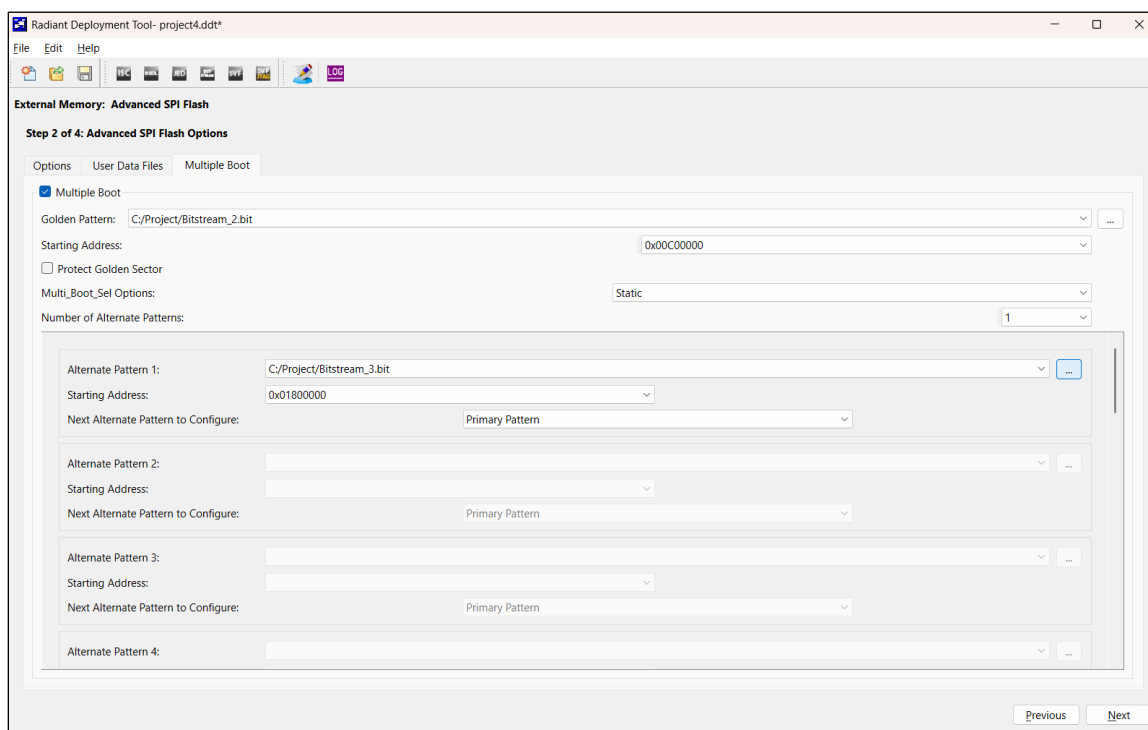

Figure 7.17. Advanced SPI Flash Options Window – Multiple Boot Tab
- Edit the following options in the **Multiple Boot** tab (Figure 7.17):